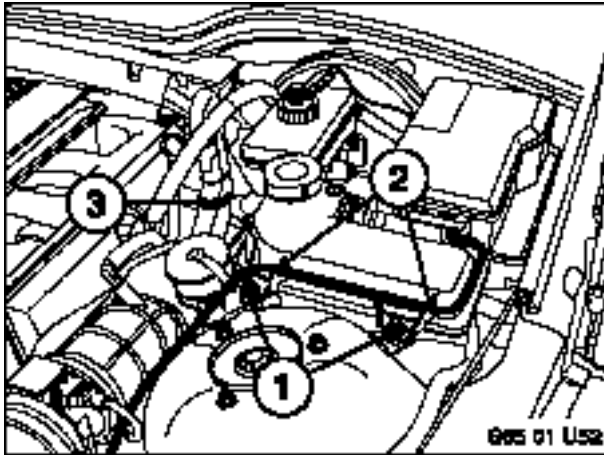

Figure 1
- 1.2 See Figure 1 Carefully pry up plastic tubing at the two retainers (2) as shown.
- 1.3 See Figure 1 Remove the two M6 nut with oversized captive flat washer (1) as shown.
- 1.4 See Figure 1 Remove hose from plastic clip (3) as shown.